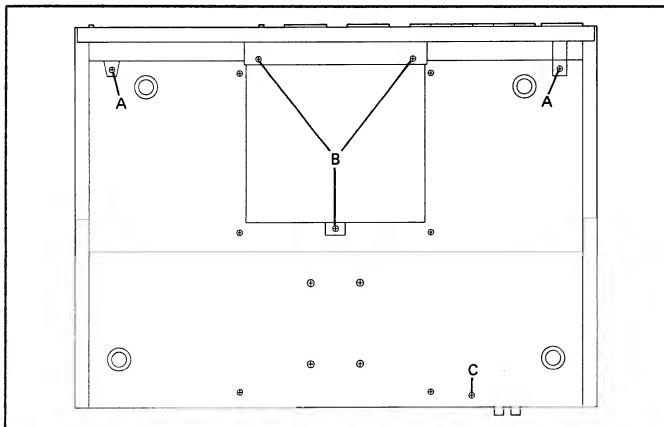
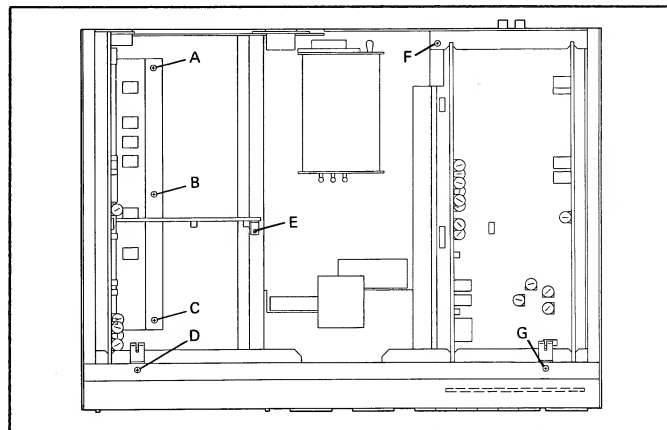

Fig. 2.1
Fig. 2.2
- Unfasten three screws [B] on the underside of the unit (Fig. 2.1)
- Unplug two connectors, unfasten screw [E] (Fig. 2.2) and detach module from SYSTEM CONTROL
- Unfasten three screws [A, B, C] (Fig. 2.2)
- Unfasten screw [F] (Fig. 2.2) and on the underside of the unit and remove also screw [C] (Fig. 2.1)
- Set recorder upright and unfasten two screws [A] (Fig. 2.1) on the underside
- Remove two screws [D, G] with toothed lock washers on the top of the unit (Fig. 2.2) and remove grounding springs